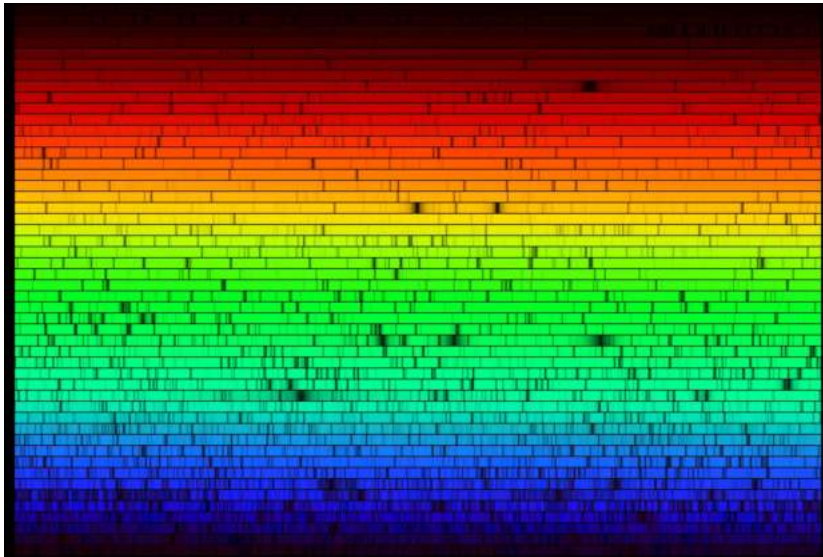

Figure 5.6: The spectrum of the sun (spread out and arranged into lines like the text of a book). Courtesy NOAO.
Figure 5.6 gives a close-up view of the spectrum of light coming from the sun. There are dark spaces, *absorption lines*, where light from a specific color is *missing*. To understand why, we need to learn a key fact from quantum mechanics, the rules that govern the behavior of atoms, molecules and light.
- Each atom or molecule will have a characteristic set of photon energies that it will absorb, based on its arrangement of energy levels. These spectral lines will serve as a fingerprint for that atom or molecule; we can tell which atoms/molecules are present without having to be there to collect them. This is the key to “remote sensing.” Figure 5.6, for example, tells us that the Sun is comprised of about 3/4 hydrogen, 1/4 helium, and < 1% of all the other elements combined.